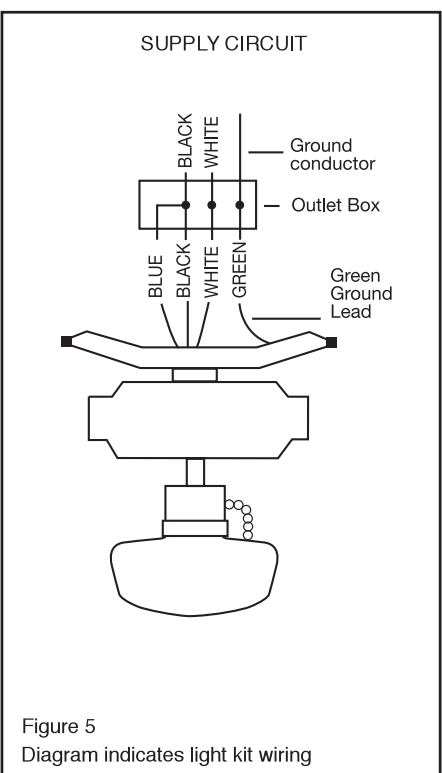

Figure 5
Step 1 Use the square hole at one end of the supporting bar to hang fan on the hook of the hanger (Figure 8). Connect wire according to wiring instruction (Figure 5 and 9).
**Step 1** Connect the fan supply (black) wire and light supply (blue) wire to the black household wire as shown in Figure 5. Do not connect the blue wire if the light kit is not used.